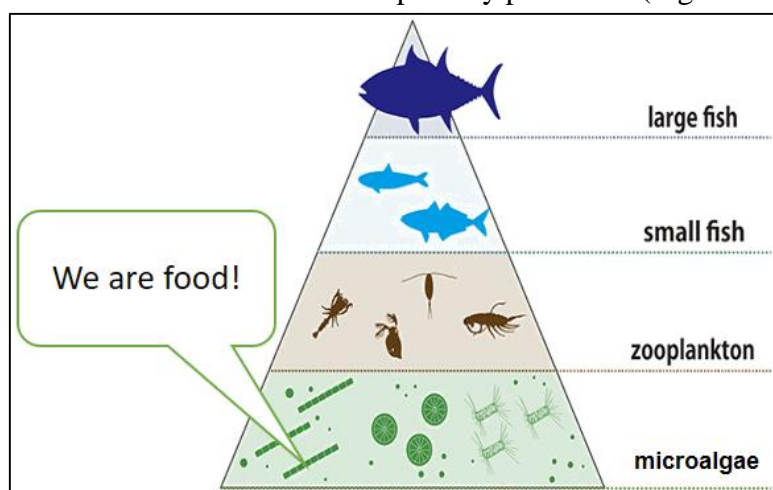

Figure 1.1 Microalgae as the primary producers in the aquatic food web.
- Constitute the foundation of food web as the primary producers (Figure 1.1).